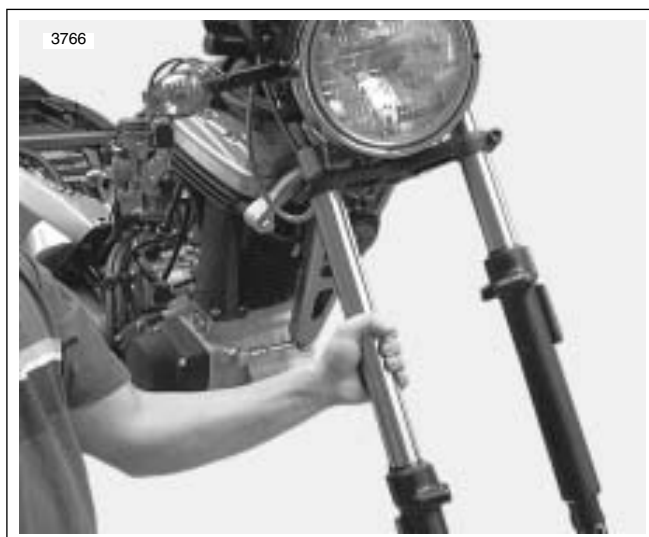

Figure 2-95. Installing Fork Assemblies
24. See Figure 2-95. Install fork assemblies through upper and lower triple clamps.
1. See Figure 2-95. Install fork assemblies through upper and lower triple clamps.